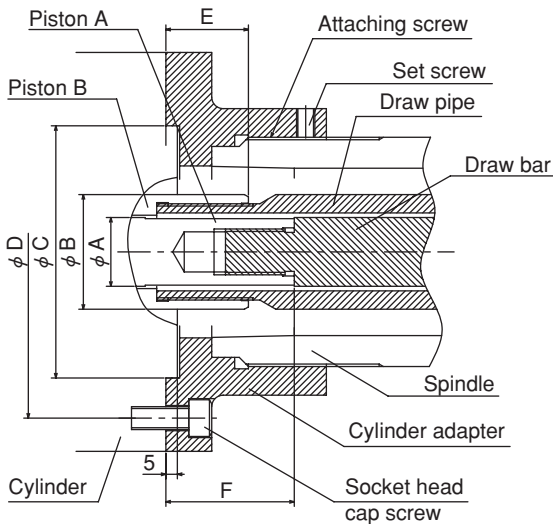

Fig.9 Cylinder adapter attaching part
- Bring the cylinder as close to the lathe spindle support as possible. The attaching method of the cylinder adapter and the measuring method of run-out are illustrated in the drawings below. (Fig. 9, Table 9)